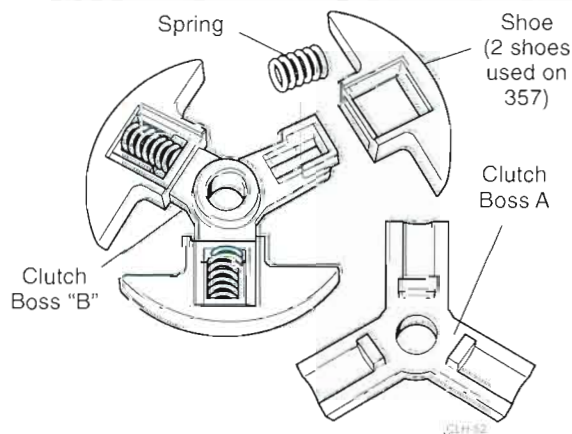

Figure 6.17 Clutch System Used on 357 and 488-757
STEP 3. Lift the individual clutch shoes and springs from the clutch body (Figure 6.17).